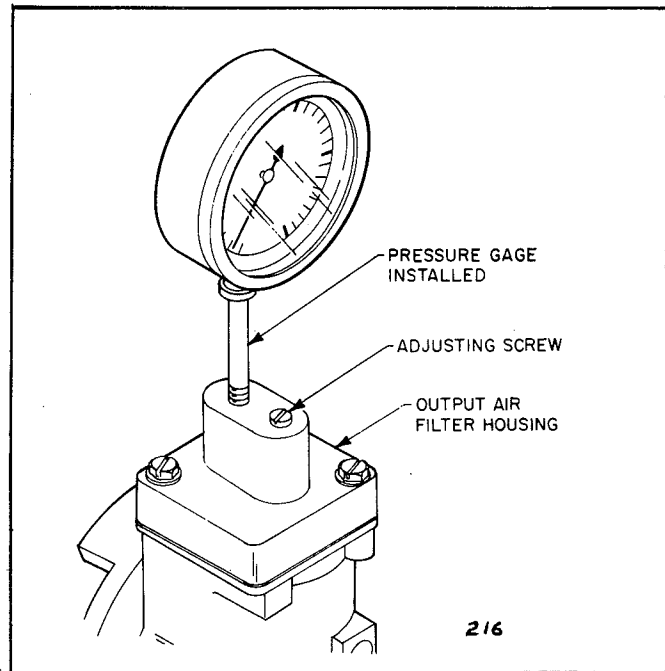

Figure 11. Pressure Gage Installation
1. Install the pressure gage into the output air filter housing. (See Figure 11.)